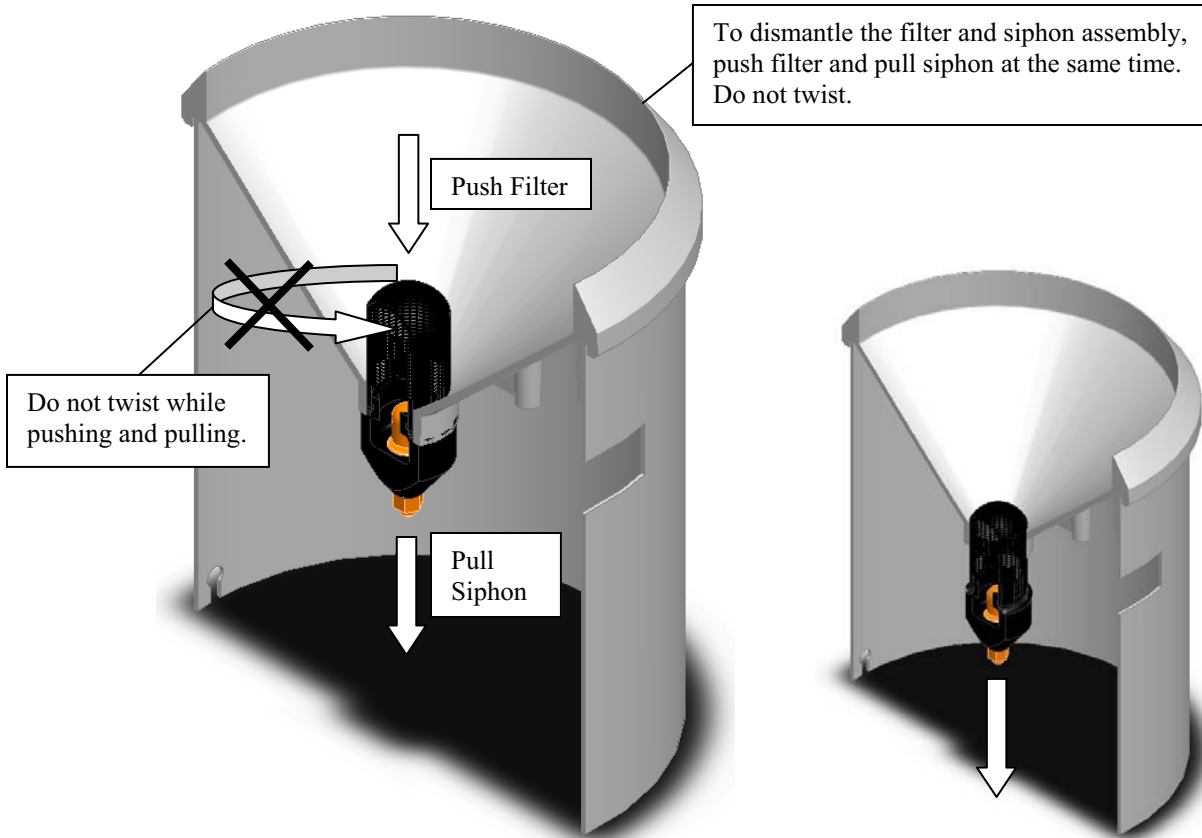

FIGURE 7-2. Dismantling the Filter/Siphon Assembly
2. Separate the filter/siphon assembly from the funnel by pushing the filter while pulling the siphon (see Figure 7-2).
1. Screw cap on stem, finger tighten only (see Figure 7-2).
2. Push stem into siphon body (see Figure 7-2).
3. Replace nut and tighten (see Figure 7-2).